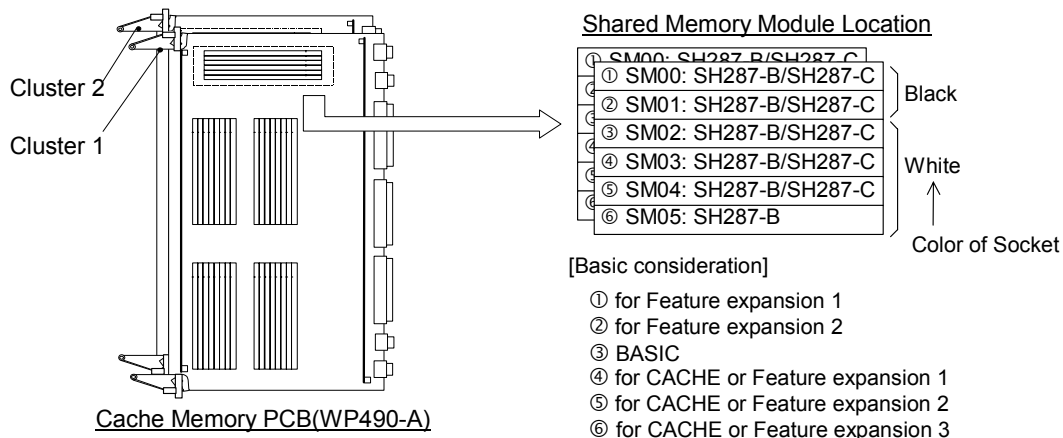

Fig. 1.1.2.3-1 Actual location of shared memory module
Note. 1: Location ①-⑥ shows actual location of shared memory module on Cache PCB. (Refer to Fig. 1.1.2.3-1)